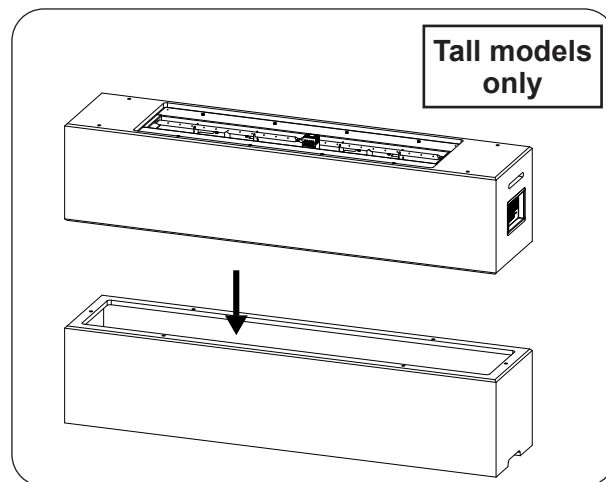

Fig. 27-2 Place top piece (if applicable)
1. Align the top piece over the base as shown in Fig. 27-2.